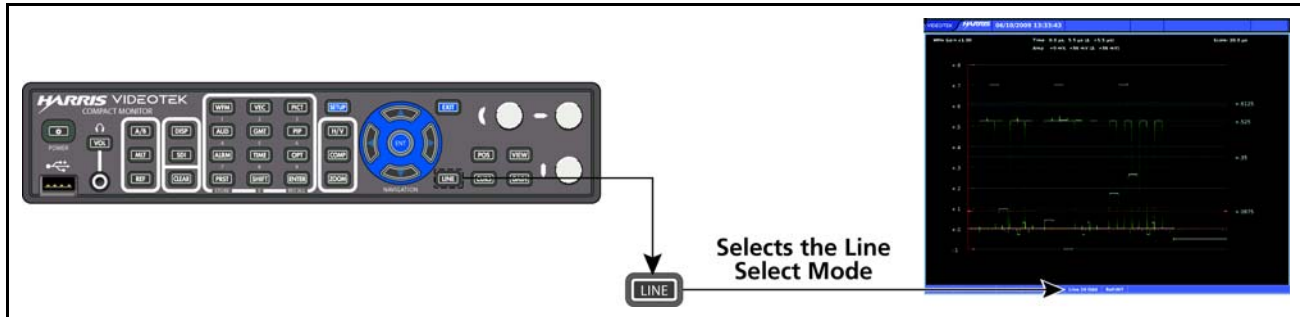

Figure 4-7 Establishing Line Select
- 1 Press the **LINE** button to place the selected waveform display in Line Select mode. At the bottom-center of the display, the Line number and the Odd or Even field appear, as shown in Figure 4-7.